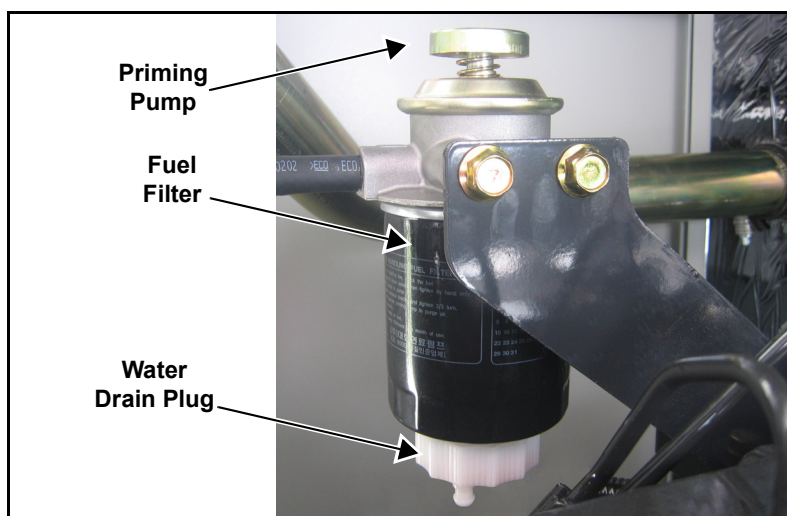

Figure 5-8. Drain Water From Fuel Filter
1. Slowly loosen water drain plug. See Figure 5-8.